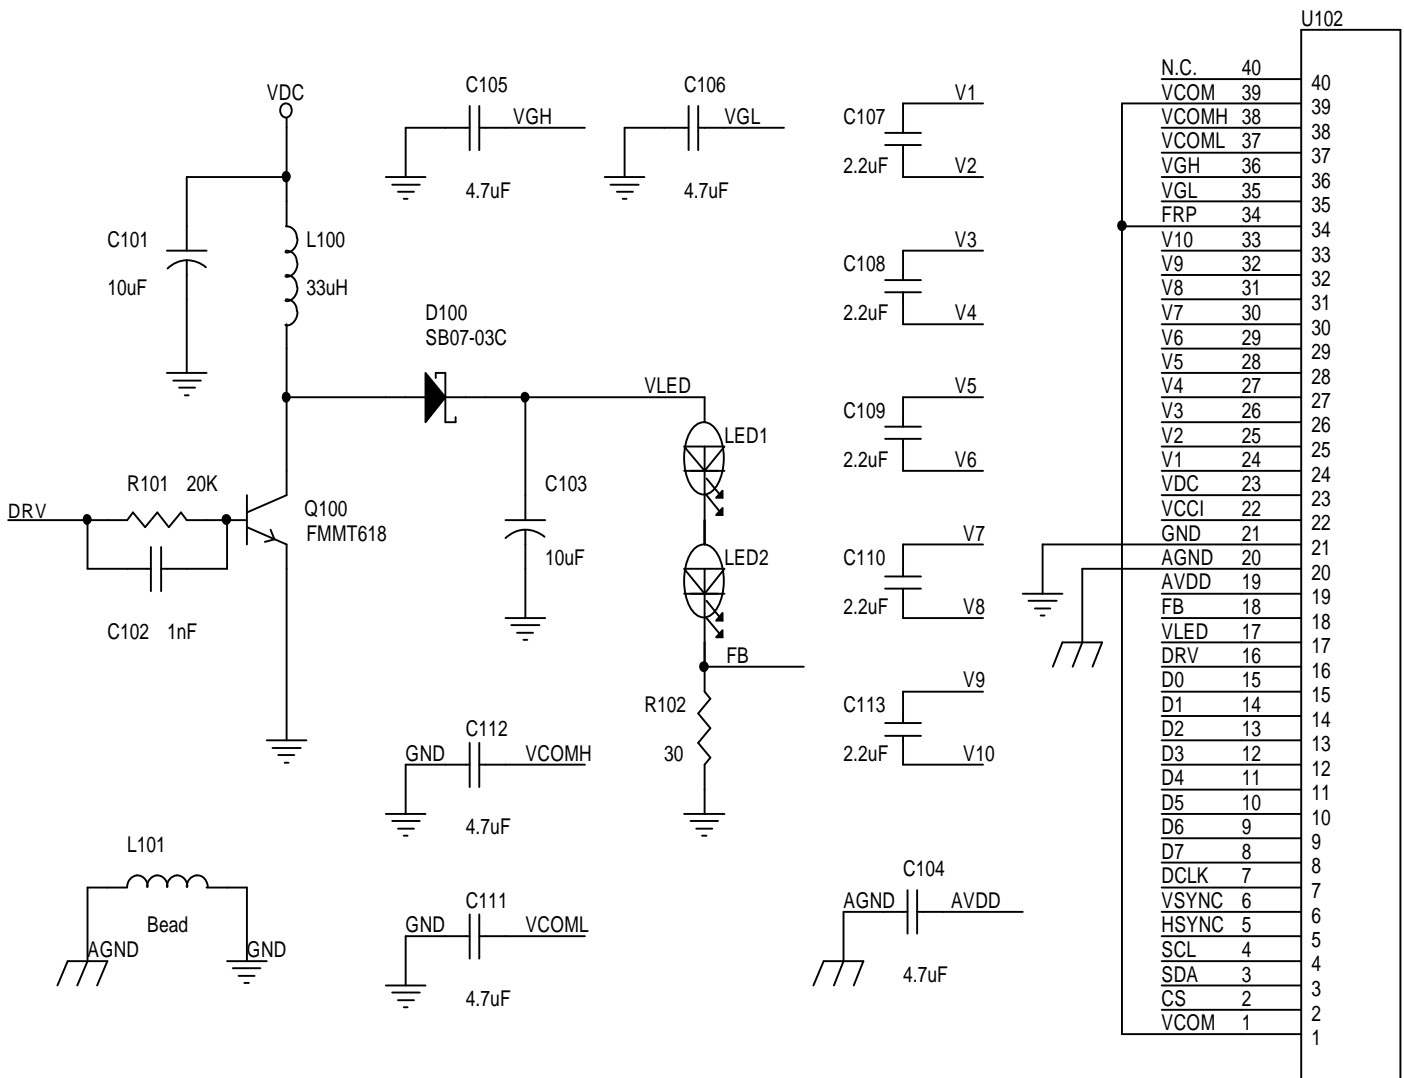

Fig.12 Typical Application Circuit
Integrated driver IC provides build-in LED booster controller, DC-DC charge pump, and Vcom driver. See Fig. 12 for the application circuit.
According to Fig. 12, the L100, Q100, D100, and C103 together form the LED boost converter. The converter with 0.6V feedback (FB) and R102 provide a constant 20mA current for LED backlight unit. The boost converter switching signal DRV is generated based on divided frequency of DCLK. Therefore, the DCLK input is required for LED driver operation, and the absence of DCLK signal during normal operation will set the driver IC into standby mode. A low ESR capacitor for C103 is recommended in order to reduce voltage ripple of VLED. The built-in LED boost controller is default active, and it is able to be turned off by setting the register SHDB1 to low. The LED booster circuit may cause the wave like phenomenon. In order to reduce the phenomenon, AGND and DGND (system GND) and LED booster circuit GND must be separated.